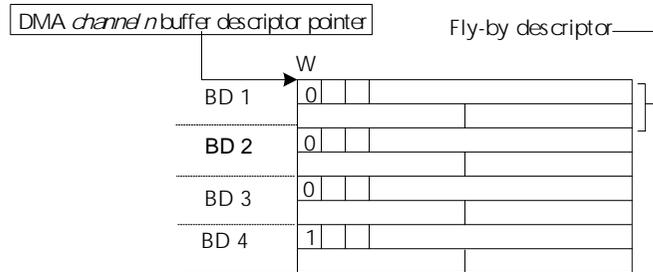

Figure 26: DMA Buffer descriptor structure
W	<p>When the W (wrap) bit is set, it informs the DMA controller that this is the last buffer descriptor within the continuous list of descriptors. The first buffer descriptor is found using the initial DMA channel buffer descriptor pointer.</p> <ul style="list-style-type: none"> ■ When W is not set (0), the next buffer descriptor is found using an offset from the current buffer descriptor. An unset WRAP bit acts as a continuation indicator; that is, when W=0, the DMA channel continues to address buffer descriptors until it encounters buffer descriptor with W set to 1. ■ When W is set (1), the bit wraps around to the first buffer descriptor. <p>See Figure 26, "DMA Buffer descriptor structure," on page 183 for an illustration.</p>